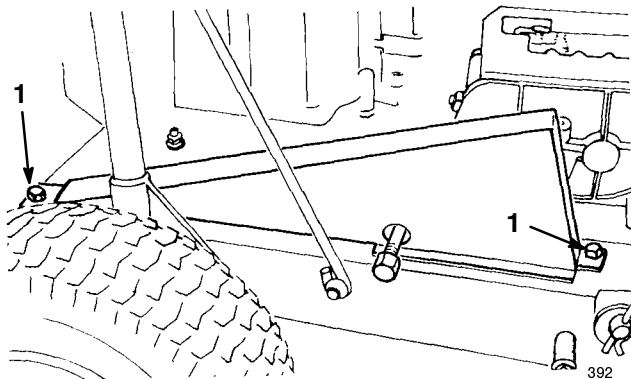

Figure 30
1. Remove the two screws securing the chain cover to the tractor chassis and remove the chain cover (Fig. 30).